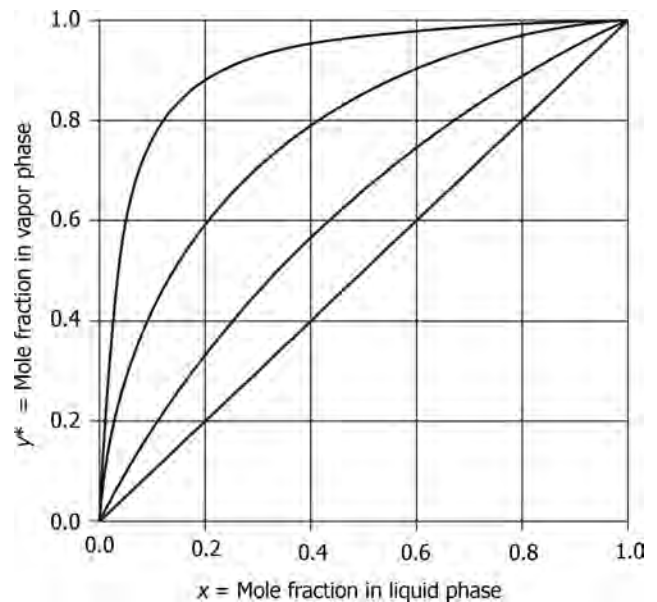

FIGURE 17.10 Effect of relative volatility on x - y diagrams.
- Figure 17.10 illustrates the effect. As α increases, that is, pressure decreases, x - y diagram *bulges*, which makes separation easier.